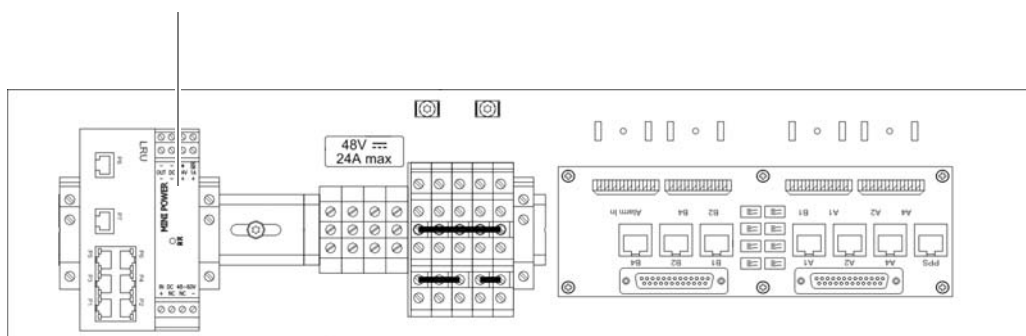

Figure 5.12 Top hat rail power supply unit on the top hat rail
Figure 5.12 shows the position of the top hat rail power supply unit on the top hat rail.
- Plug the top hat rail power supply unit onto the top hat rail from above, refer to Figure 5.12 on page 103. The catch must snap in audibly.